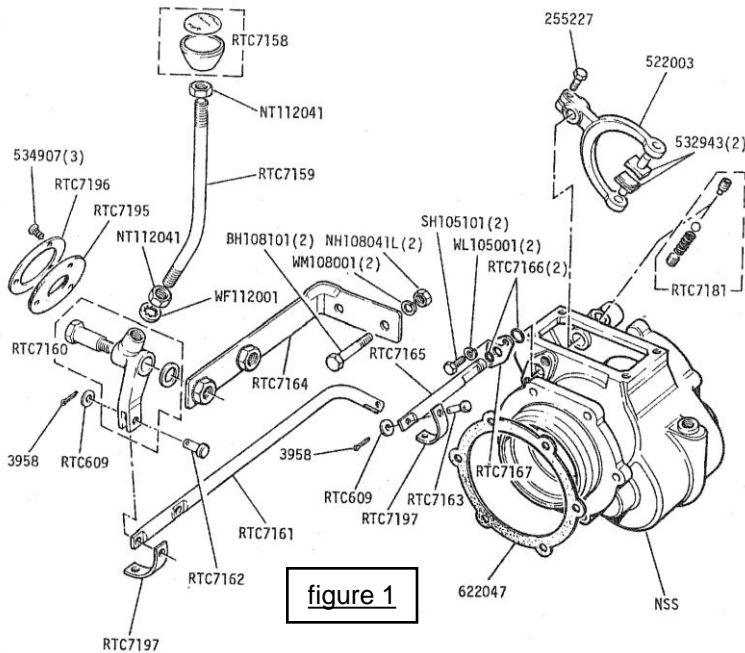

figure 1
1. Disconnect the link rod (RTC7161, fig. 1) from the selector shaft.
3. Remove the detent grub screws (RTC7181, fig. 1), starting with the one on the top side. This serves to limit maximum travel of the selector shaft. Care needs to be taken with the one on the bottom side. It compresses the selector spring to press a ball onto the selector shaft. This fits into three recesses on the shaft, marking the positions "low", "neutral" and "high".
4. Remove the sealing plate for the selector shaft (RTC7167, fig. 1)
5. Remove the pinch bolt (255227, fig. 1)
6. Pull the selector shaft out of the housing and carefully remove the selector fork (522003, fig. 1) together with the swivel pads (532943, fig. 1). Should they fall into the housing during the procedure retrieve them once the main and lay shaft have been removed.